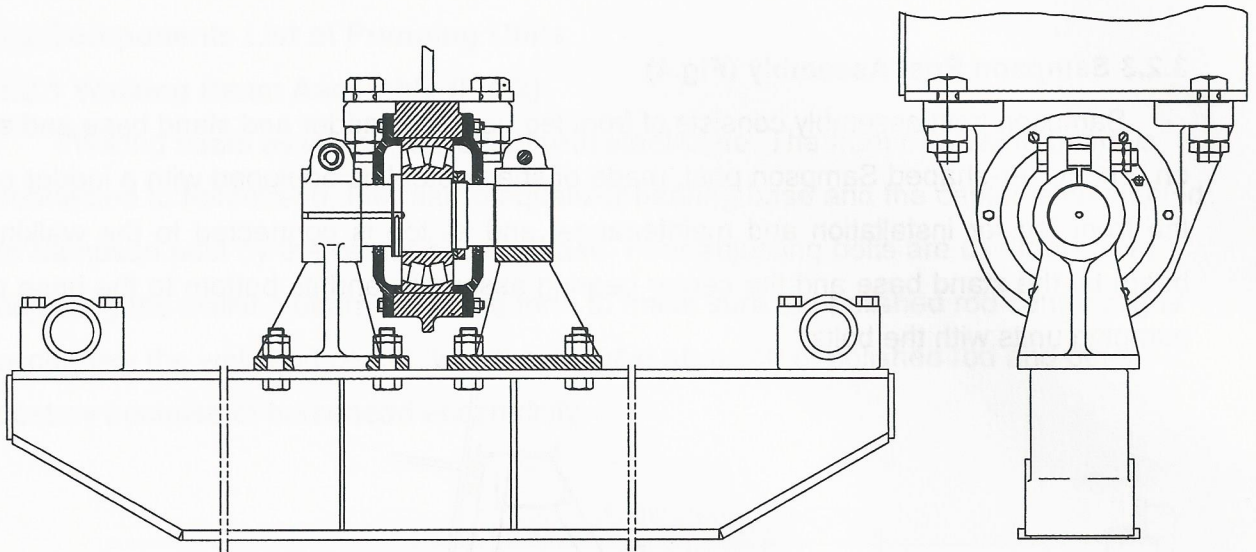

Fig.5: Equalizer Assembly Structural Sketch
3.2.4.1 Equalizer Assembly (Fig.5)
The equalizer assembly consists of equalizer, Anchor Plate 1, Anchor Plate 2, stand base, stand shaft, lubrication pipeline, two 53628 bearings, equalizer bearing base and so on. Equalizer bearing assembly consists of equalizer bearing base, stand base and bearing. Two ends of the equalizer are connected to two pitmen by pitman pins, and its top to walking beam by the equalizer bearing base and bolts. As two tiers centripetal roller bearing are installed in the equalizer bearing base, which can micro compensate the error of manufacturing and installation. In addition we can micro adjust the position of equalizer bearing base to ensure that pumping units can work normally. See Fig 5: